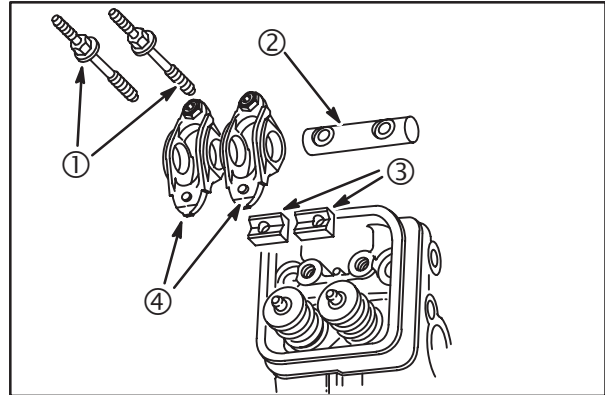

Fig. 22
NOTE: Rocker shaft support (3) holes are offset. Install with holes facing ends of rocker shaft, **Fig. 22**.
1. Lubricate rocker arms (4) and shaft (2) with clean engine oil.
2. Assemble rocker arms, shaft, supports and studs (1) and install on cylinder head, **Fig. 22**. Torque studs to **140 in. lbs. (16 Nm)**.